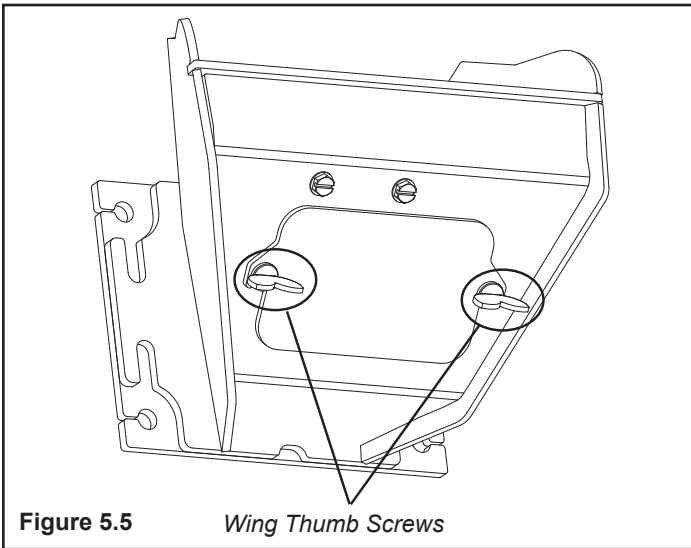

Figure 5.5 Wing Thumb Screws
- Loosen the (2) wing thumb screws on the lower front angle of the burn pot. Figure 5.5